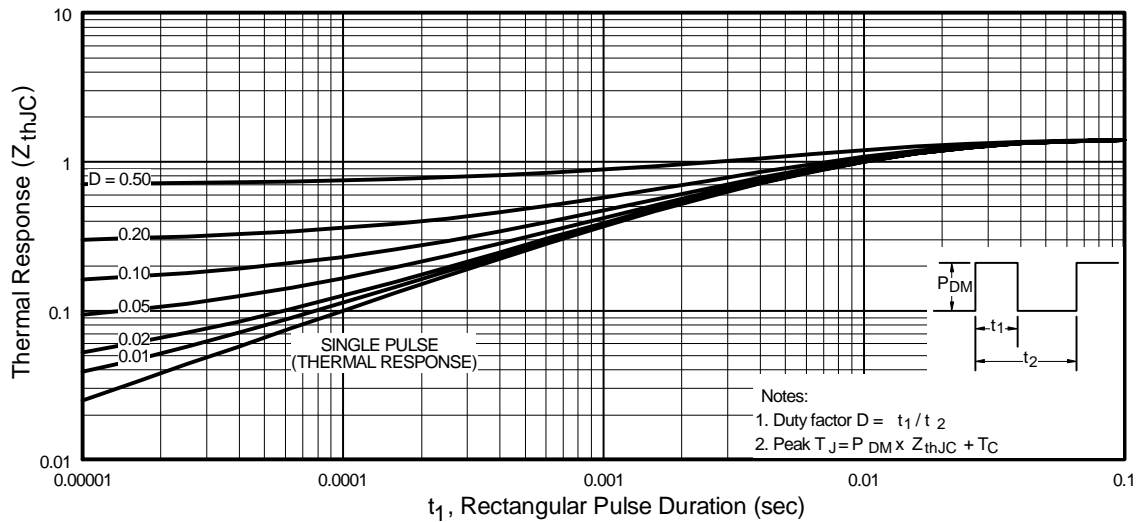

Fig 11. Maximum Effective Transient Thermal Impedance, Junction-to-Case
- ① Repetitive rating; pulse width limited by max. junction temperature. (See Fig. 11)
- ② $V_{DD} = -25V$, starting $T_J = 25^\circ\text{C}$, $L = 2.1mH$